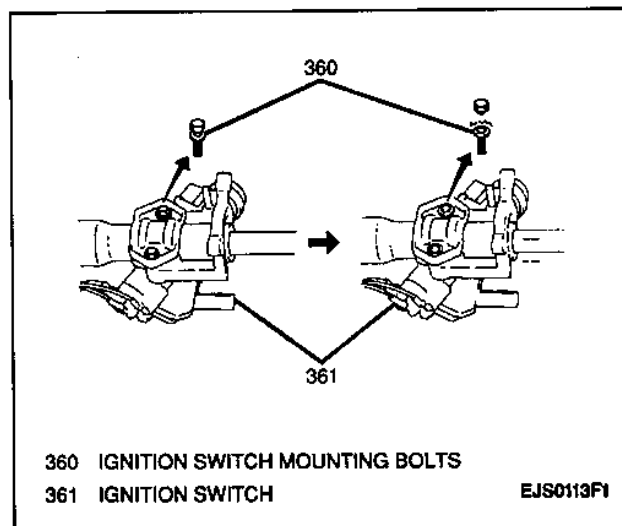

Figure 15—Break-Away Head Bolts
- Break-away head bolts until the heads break off (Figure 15).